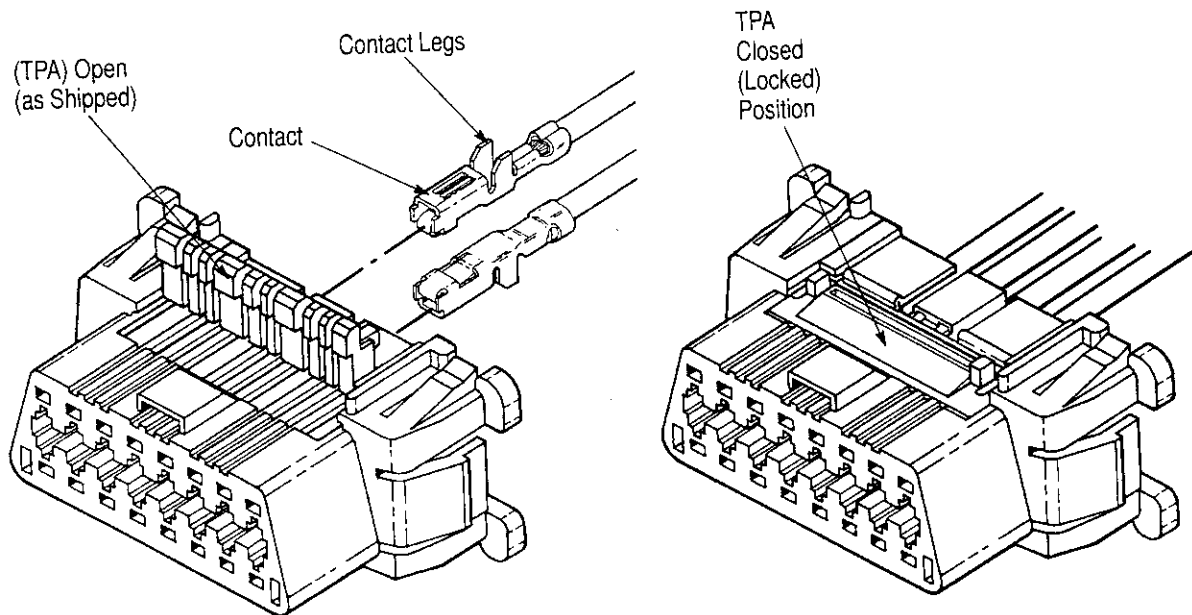

Figure 2
4. After all required contacts have been inserted, close and lock the TPA by pushing it forward until it snaps into place. See Figure 2.